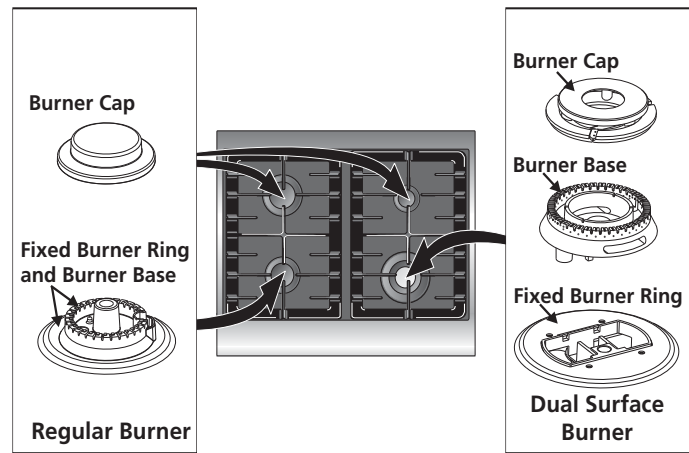
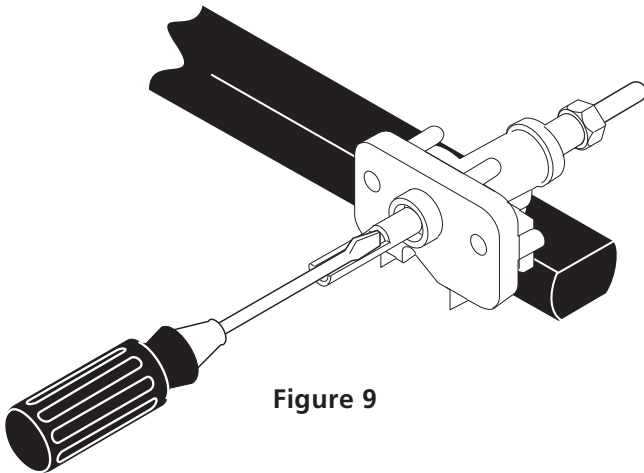
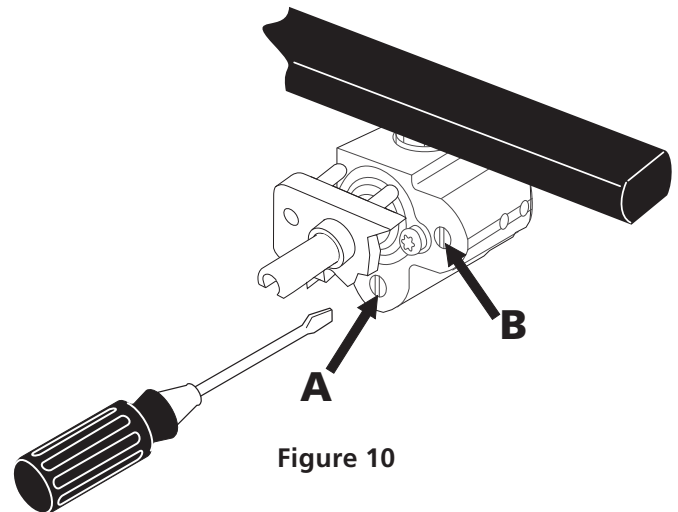

Figure 8
Figure 9
Figure 10
This range is equipped with sealed burners as shown (Figure 8). All pieces are at their place. Take note where they are. **Remove all packaging material located under the Dual Surface burner head.** Make sure the burner is properly aligned and leveled. **NOTE:** There are no burner adjustments necessary on this range.
4. Adjust the "LOW" Setting of Regular Burner (see figure 8) on the Surface Burner Valves (Figure 9):
5. Adjust the "LOW" Setting of the Dual Burner (see Figure 8) on the Surface Burner Valve (Figure 10):
- The inner portion of the dual burner flame size can be increased or decreased by turning screw **A** (see Figure 10). Use screw **B** to adjust the flame size of the outer portion of the dual burner. Turn counterclockwise the screw to increase flame size. Turn clockwise the screw to decrease flame size. Adjust flame until you can quickly turn knob from LITE to LOWEST POSITION without extinguishing the flame. Flame should be as small as possible without going out.